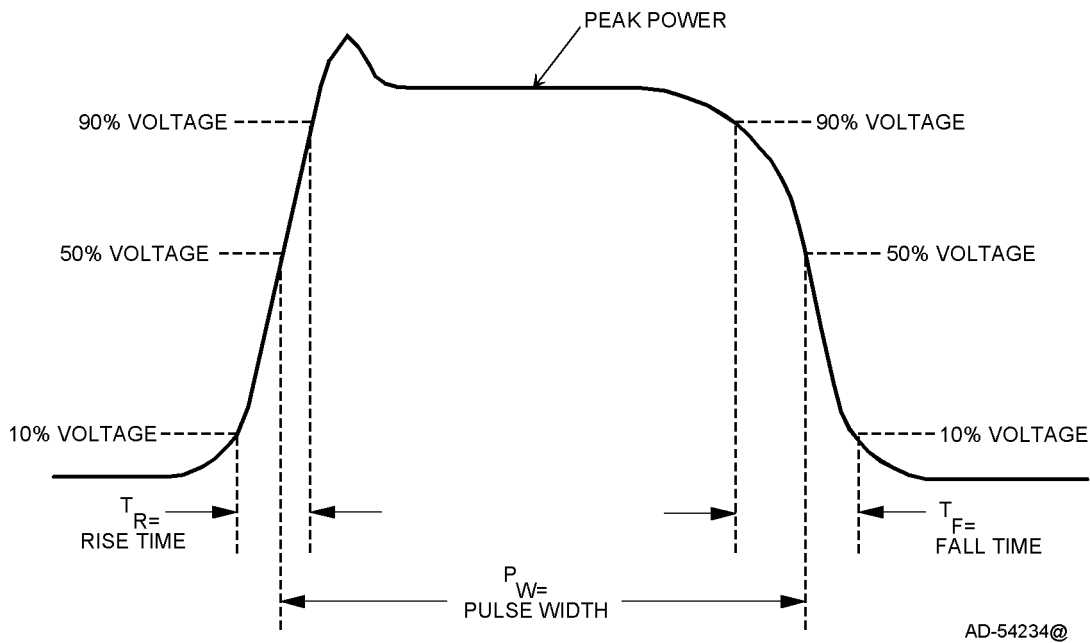

Figure 2. Basic Pulse Measurements
3. GENERAL INFORMATION 3.1 General Requirements 3.1.1 All tests shall be performed under the following conditions: Temperature = 25 ± 5 °C Relative humidity = 95% maximum Pressure = between 20 and 32 inHg 3.1.2 Power to the UUT should be removed before attaching or removing any interconnecting systems. 3.1.3 Perform calibration procedure in Appendix B before testing unit. 3.2 General RF Test Requirements 3.2.1 All antenna ports must be terminated in 50 ohms while power is applied to the UUT. 3.2.2 Test equipment connected to the antenna ports must have a voltage standing wave ratio (VSWR) of less than 1.5:1. 3.2.3 Test equipment connected to the antenna ports shall withstand peak power levels of at least 1000 W and average power levels of at least 2 W. 3.2.4 RF power values are specified as measured at the rear connector of the UUT. If cabling or test equipment introduces losses into the measurement, these losses shall be allowed for in the values reported by the test equipment. 3.2.5 Figures 2 through 6 provide information about pulse identification and the method of measuring pulse parameters for the RF measurements. The actual specification values for these parameters are listed in the RF test procedure tables.